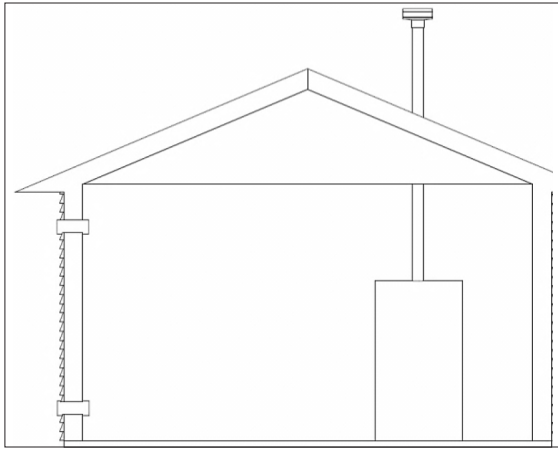

Figure 23 - Combustion Air from Outdoors
4. If a single combustion air opening is provided to bring combustion air in directly from the outdoors, the opening must be sized based on a minimum free area of one square inch per 3000 BTU/hr. This opening must be located within 12" of the top of the enclosure. See Figure 23.